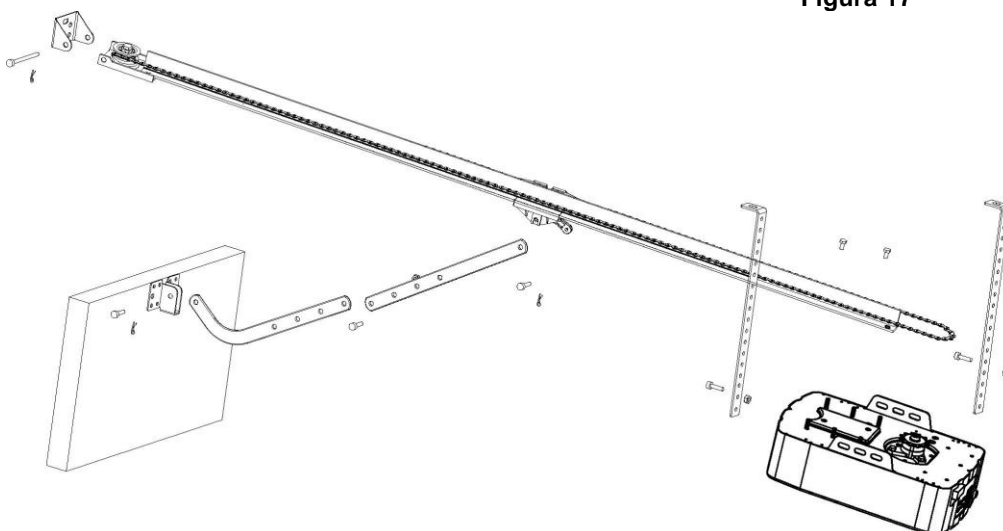

Figura 17
PASO 3 (figura 17, figura 18)
PASO 4 (figura 17, figura 19)